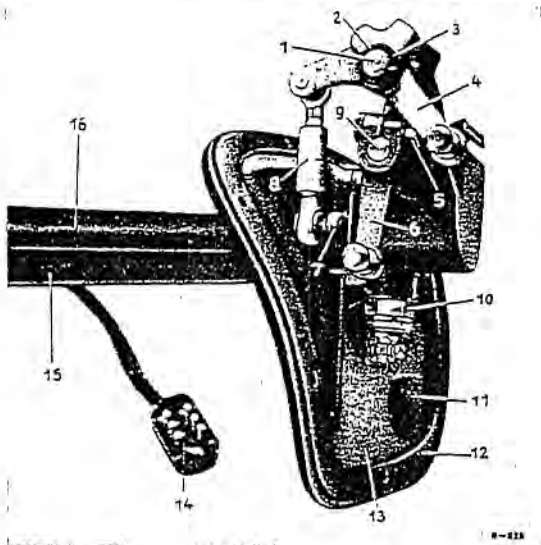

Fig. 26-12/3
5. Loosen the hexagon screw (32) in the selector lever (31), push the selector lever (6) with the selector shaft (9) to the right toward the center of the car, and remove the selector lever (31) upward (Fig. 26-12/).